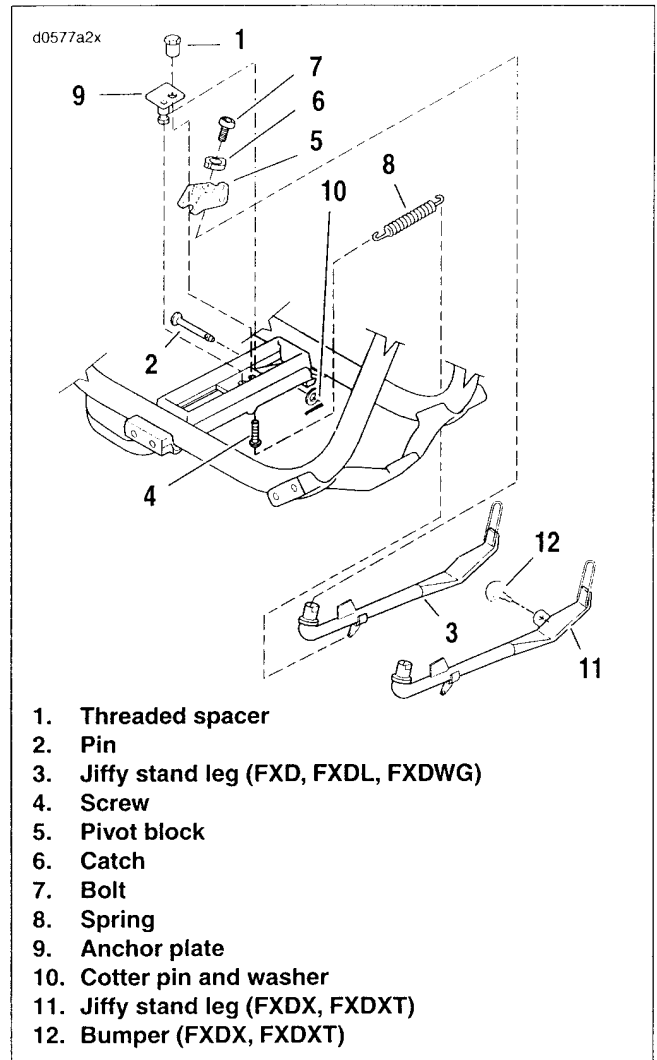

Figure 2-123. Jiffy Stand
2. See Figure 2-123. Inspect top of catch (6). If covered with dirt, wipe dirt off with a shop towel and spray catch and mating surface with LOCTITE AEROSOL ANTI-SEIZE.
4. If catch is covered with mud/grime, remove bolt (7) and catch (6).
5. Clean catch (6) and pivot block mating surface (5).
6. Spray LOCTITE AEROSOL ANTI-SEIZE on shaft of jiffy stand leg and pin (2) to lubricate the mating surface between pin and pivot block (5). Move leg back and forth and downward while spraying lubricant.
7. Assemble the catch so it engages the flats on the shaft of the jiffy stand leg and secure with bolt (7).
8. Tighten bolt (7) to 19 ft-lbs (25.8 Nm).
2. See Figure 2-123. Remove cotter pin and washer (10) from pin (2). Discard cotter pin.
3. Detach spring (8) from jiffy stand and anchor plate (9).
4. Pull pin (2) from between frame tubes. Jiffy stand and pivot block components will drop as an assembly.
1. See Figure 2-123. Place pivot block (5) and jiffy stand (3 or 11) assembly between frame tubes.
2. Insert the pin (2) from direction shown through frame tubes and pivot block (5). Secure with washer and a **new** cotter pin (10).
3. Attach spring (8) to anchor plate (9) and jiffy stand. When properly installed, hook on spring side connected to jiffy stand faces upward.